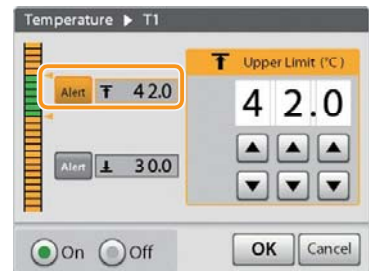

Figure 3-22
4. Confirm that [Alert] of the upper limit is selected. (Figure 3-22)